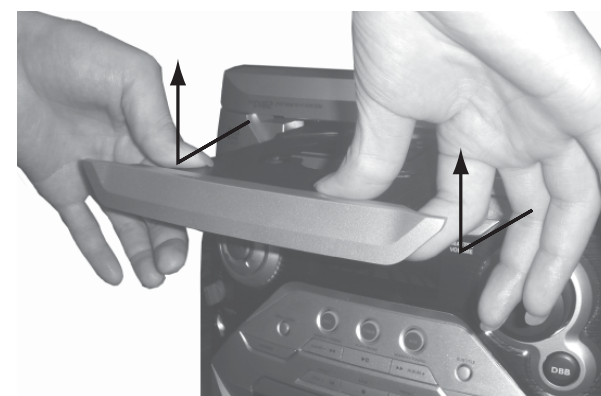

Figure 6
- 5) Remove the Cover Tray as shown in figure 6.